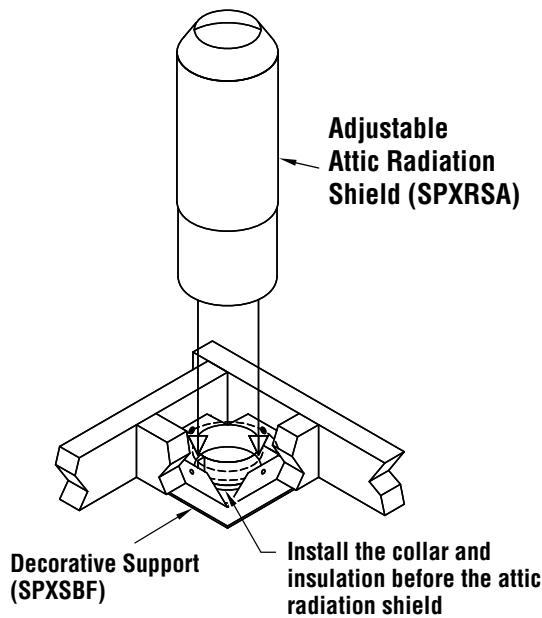

Figure 5b
- 4.1. If going right through an attic, install the top part of the attic radiation shield above the support (see figure 5b). Discard the bottom part of the attic radiation shield. See Step 8.1 to finish the attic radiation shield installation.